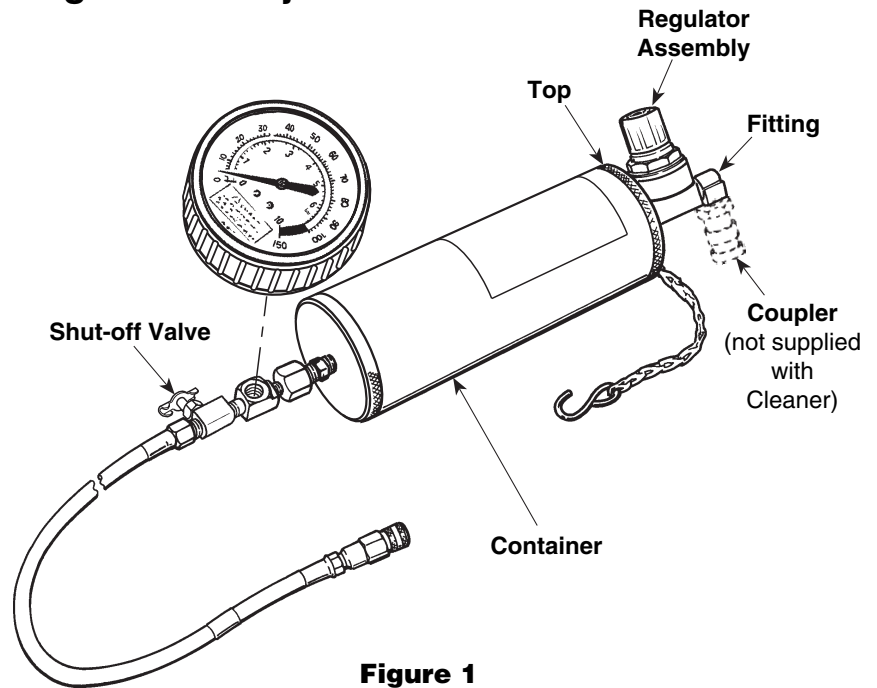

Figure 1
5. Turn OFF shut-off valve at bottom of Fuel Injector Cleaner container. See Figure 1. **Note:** Valve is OFF if it's turned all the way clockwise.